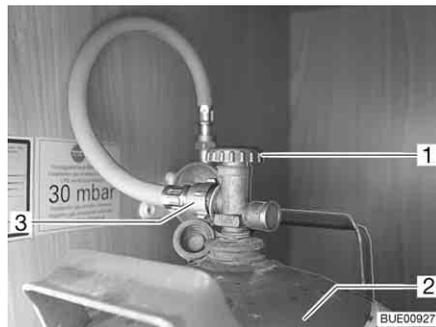

Fig. 158 Gas bottle compartment
- Close the regulator tap (Fig. 158,1) on the gas bottle (Fig. 158,2). Pay attention to the direction of the arrow.
- Unscrew the gas tube (Fig. 158,3) from the gas bottle.